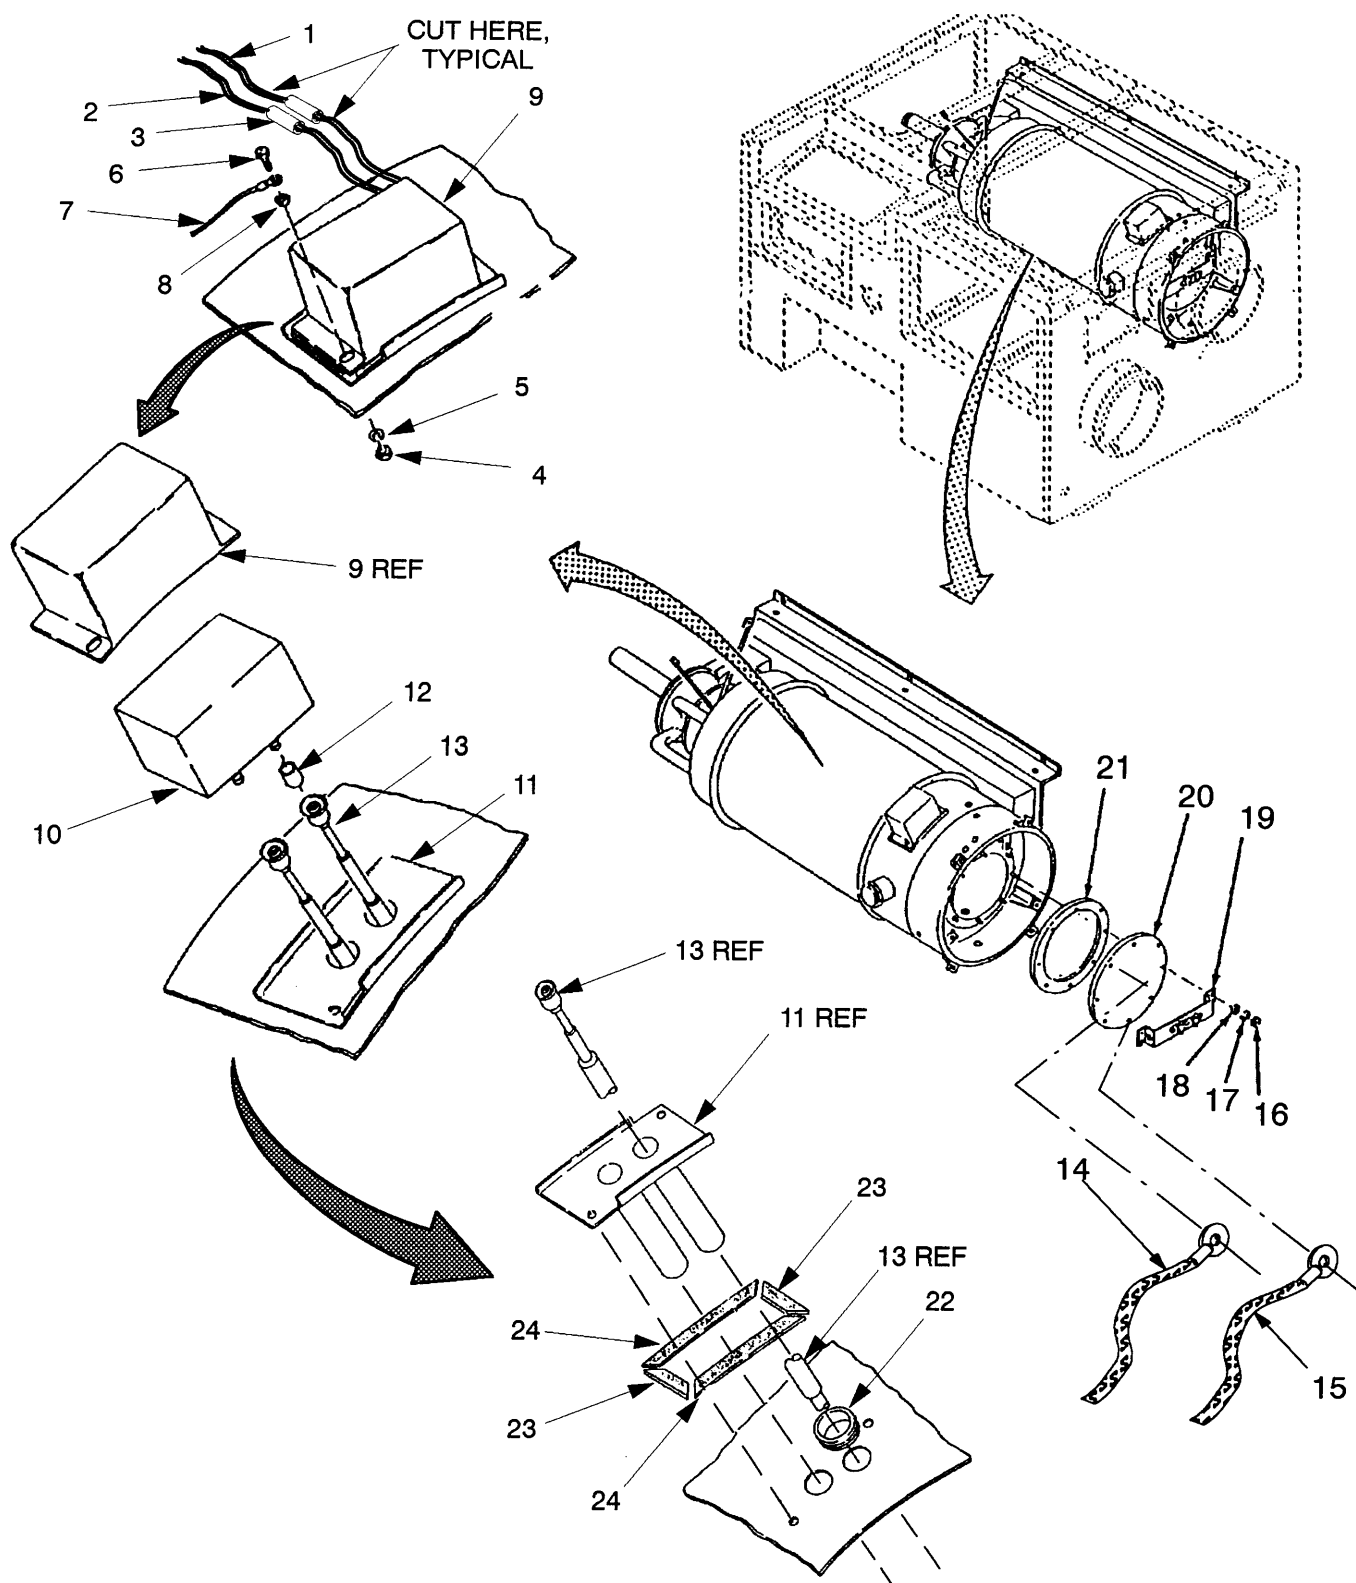

Figure 4-58A. Transformer, (Model H120-1) Removal
- a. Removal (Refer to Figure 4-58A)
- (1) Tag and separate wire (1) TB1-8/TR1-BLU and wire (2) TR1-WHT/TB1-3 from two terminal splices (3). Discard terminal splices.
- (2) Remove two nuts (4), two lockwashers (5), two screws (6), ground wire (7), two flat washers (8) and transformer cover (9). Discard lockwashers.
- (3) Lift transformer assembly (10) away from base plate (11), remove two heat shrink tubes (12) and disconnect two high-tension leads (13). Discard heat shrink.
- (4) Tag braided wires (14) and (15). Remove eight nuts (16), eight lockwashers (17), eight flat washers (18), thermostat bracket (19), braided wires and cover plate (20). Discard lockwashers.
- (5) Remove gasket (21) from cover plate (20). Discard gasket.
- (6) Disconnect the other end of two high-tension leads (13) and remove the leads through transformer base plate (11). Remove two grommets (22).
- (7) Remove transformer base plate (11).
- (8) Remove two shielded gaskets (23) and two shielded gaskets (24) as required.